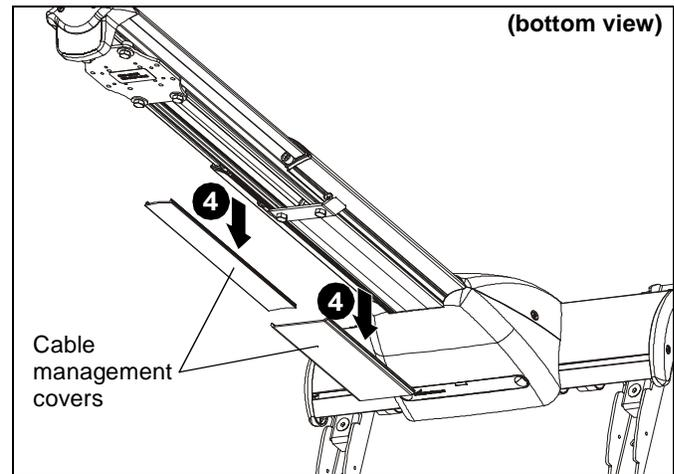

Figure 25
4. Remove cable management covers (if necessary) from short throw projector arm. (See Figure 25)